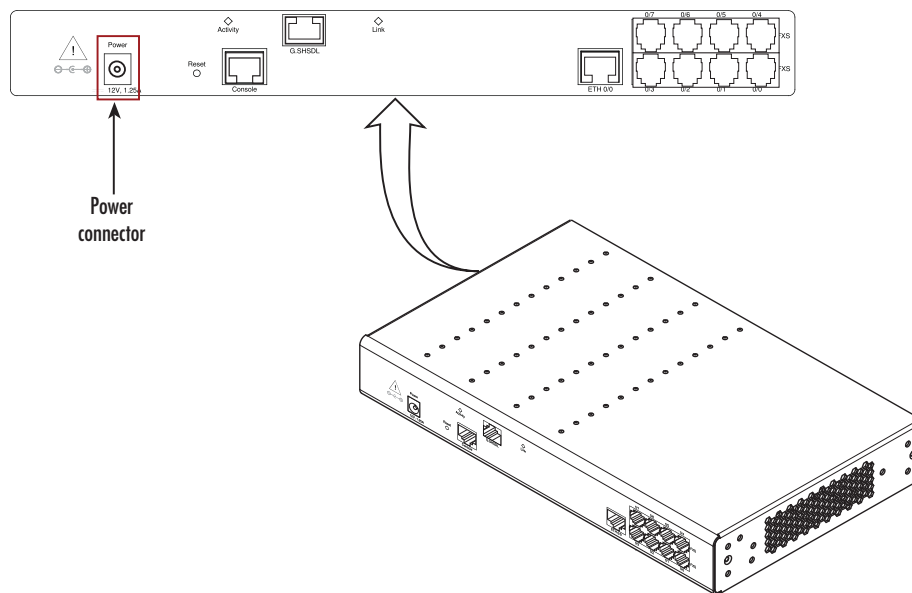

Figure 9. Power connector location on rear panel
1. Insert the barrel type connector end of the AC power cord into the external power supply connector (see figure 9).
2. Insert the female end of the power cord into the internal power supply connector (see figure 9).